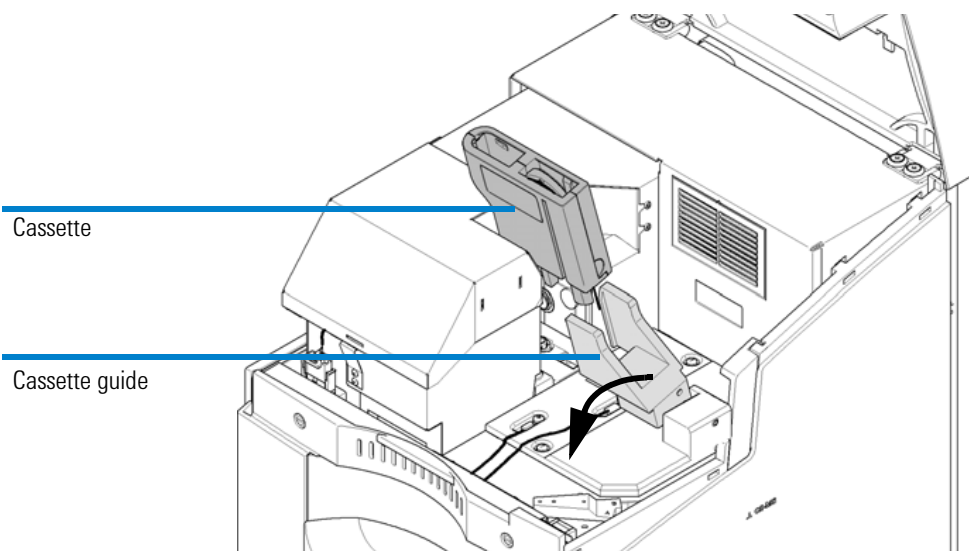

Figure 27 Removing the cassette
- Carefully pull the cassette out of the cassette guide. See Figure 27 on page 123.